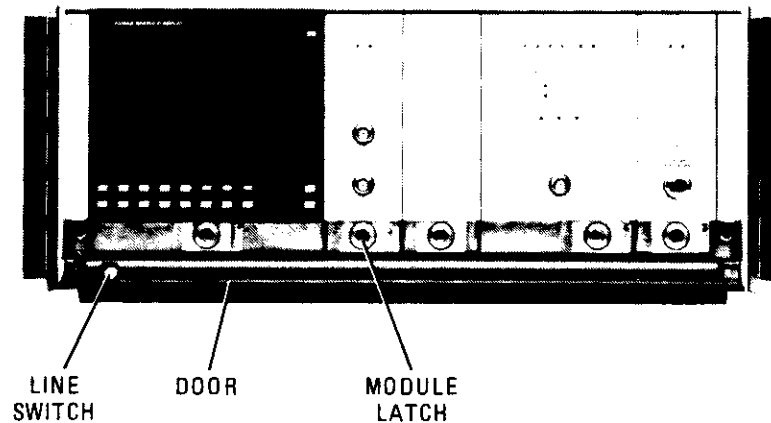

Figure 2-3. Module Installation
1. Set the mainframe LINE switch to OFF. See figure 2-3.